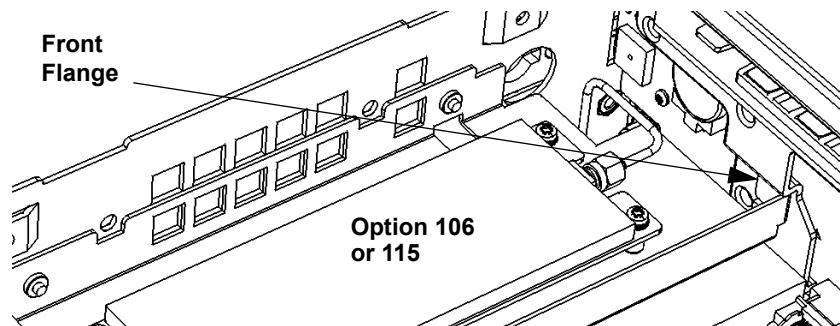

Figure 4-13. Front Flange Resting On Plastic Tab
- 22 Set the Channel 2 assembly down on top of the motherboard so that the female SMA edge connector is near the male SMA connector of the semi-rigid cable installed on the front panel assembly (see Figure 4-13).
The front flange on the right-front of the Channel 2 assembly bracket must rest on the tab protruding from the front panel (see Figure 4-13).